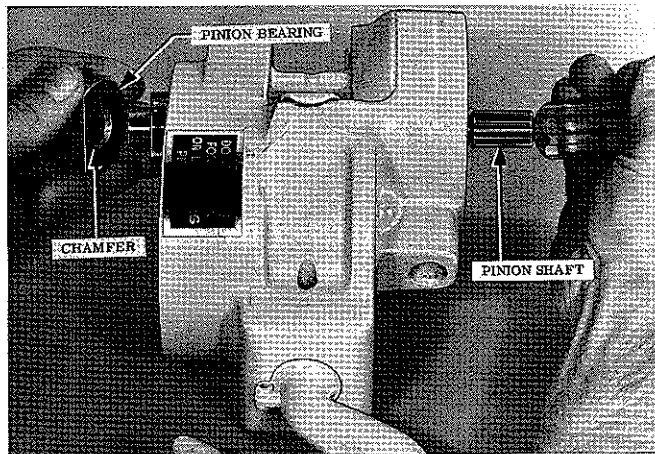

Figure 6-9. Removing Pinion Bearing from Frame and Pinion Shaft
- b. Remove pinion bearing from pinion shaft and bore in frame. Bearing can be started but of bore by tapping on end of shaft as shown in Figure 6-9.
b. When installing pinion bearing, be certain to position it so chamfer in bore faces the pinion gear. See Figure 6-9. The flat on side of bearing must be perfectly aligned with cover pilot bore in frame, as shown in Figure 6-13.